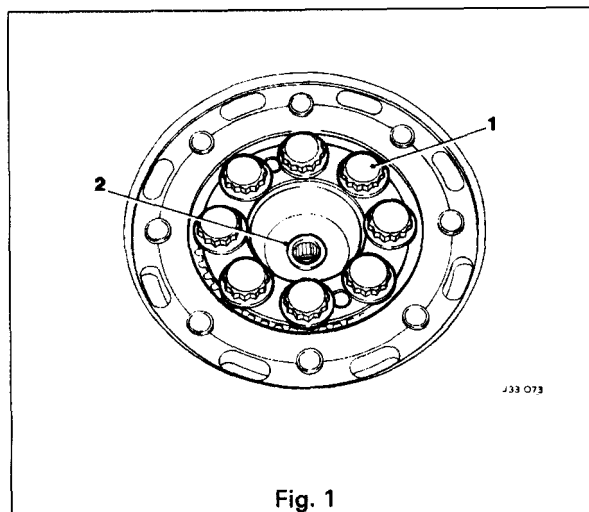

Fig. 1
- Remove the clutch master cylinder to clutch pedal clevis pin securing clip (1 Fig. 1), and remove the clevis pin (2 Fig. 1).
- Remove the master cylinder securing nuts (3 Fig. 1).
- Disconnect the hydraulic pipe (4 Fig. 1) from the master cylinder, and fit blanking plugs to the pipe and master cylinder.
- Remove the master cylinder assembly (5 Fig. 1) and the gasket (6 Fig. 1).
- Place a new gasket (6 Fig. 1) over the mounting studs.
- Fit and align the master cylinder assembly to the studs, and secure with the nuts (3 Fig. 1).
- Remove the blanking plug from the hydraulic pipe (4 Fig. 1).
- Reconnect the pipe (4 Fig. 1) to the master cylinder (5 Fig. 1), and tighten the union nut.